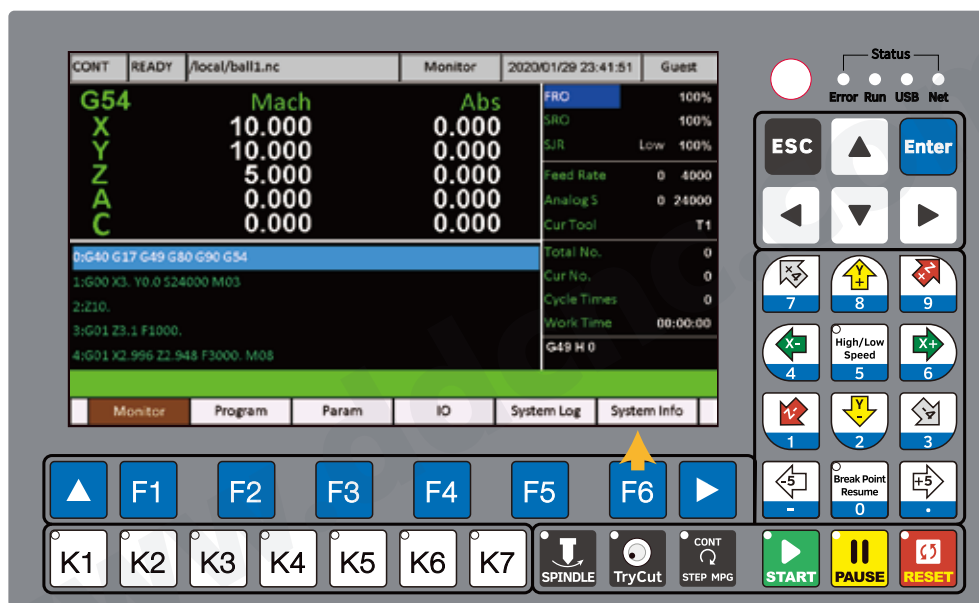

Figure 8-1 Press F6 to System Info Page
- 1) Go to Main Page of “System Log” as the figure 8-1; And press F3 key of “System update” ;